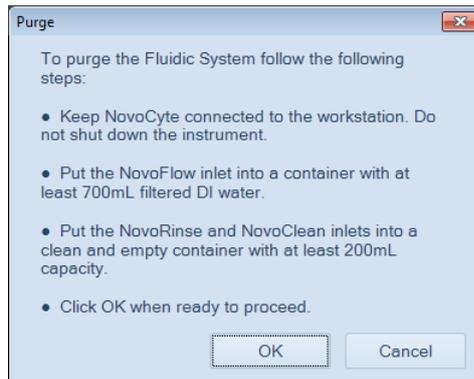

Figure 4-20 NovoExpress™ Dialogue Box to Guide the *Purge* Procedure
- 2 NovoExpress™ software will prompt message to guide you to conduct the purging procedure (Figure 4-20). Follow the instructions in each step and click *OK* to move to the next step until completion.